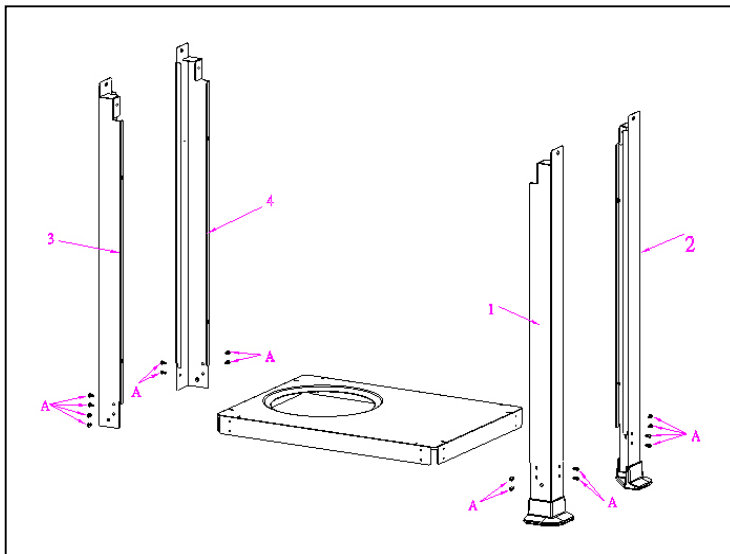

Figure 1
- STEP 1.** Attach Legs to Cart Floor Panel with screws (Type A). (Fig. 1)